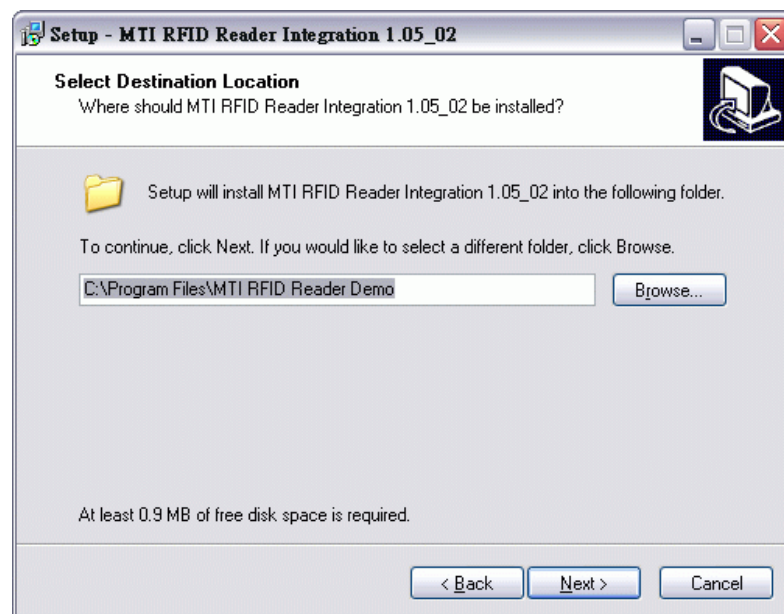

Fig. 3 Select the destination location to install.
**Step 2:** Select destination location where the program will be installed, shown in Fig. 3